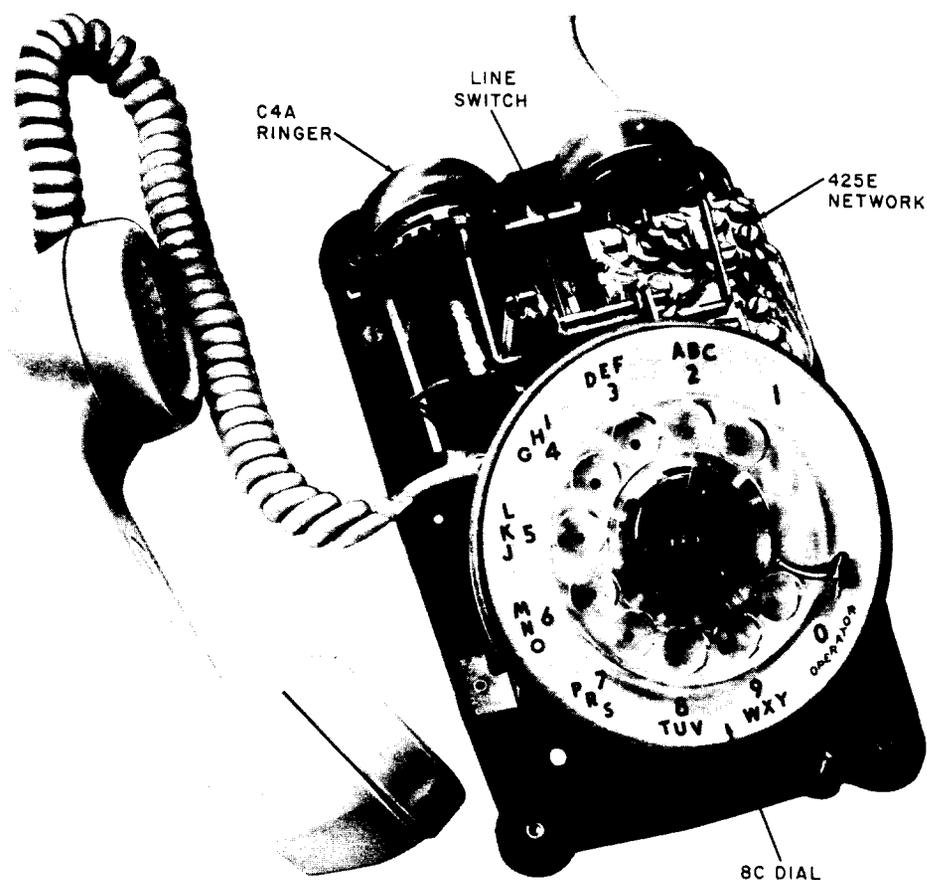

Fig. 4 — 500DR Telephone Set — Housing Removed
2.17 The 500DR telephone set (Fig. 4) consists of a line switch, C4A ringer, 425E network, 7- or 9-type dial, G3AR handset, and H4CJ handset cord mounted to a metal base and enclosed in a plastic housing. A four conductor mounting cord is also included.